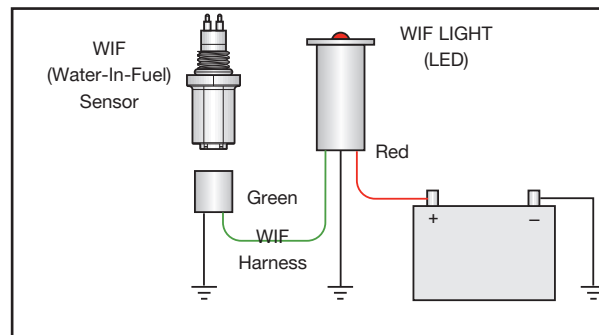

Figure 3 - WIF Wiring
Step 6 - Connect the 12" (304.8 mm) black ground lead with a 3/8" (9.53 mm) diameter loop end on the WIF wiring harness to ground source near Fuel Processor (if applicable). See Figure 3.